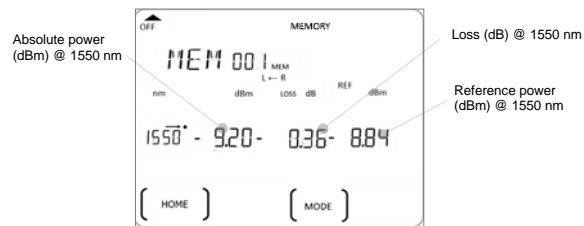

Figure 8. Memory display in Meter mode
- [For data saved in Meter mode only]: As default, absolute power will be displayed in dBm along with loss (dB) and reference power (dBm), see Figure 8 at the end of this section for an LCD display sample. To change to display absolute power in watt also, press **F3**. Press **F3** again will return to default display.